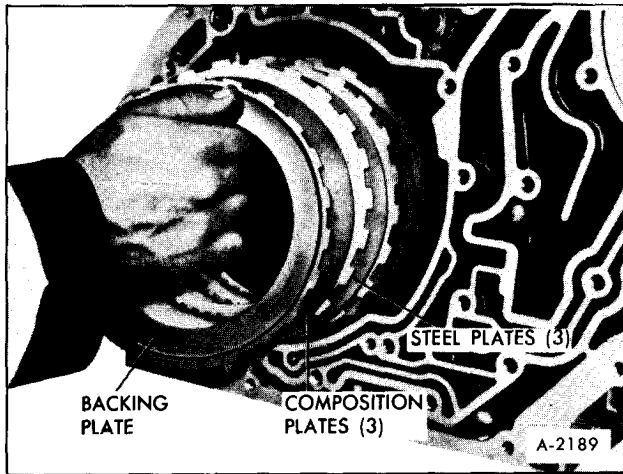

Figure 72—Installing Intermediate Clutch snap ring gap on side of case opposite front band anchor pin.
11. Lubricate three steel and three composition intermediate clutch plates with transmission fluid and install clutch plates in transmission case, Figure 72. Start with steel plate and alternate composition and steel plates.